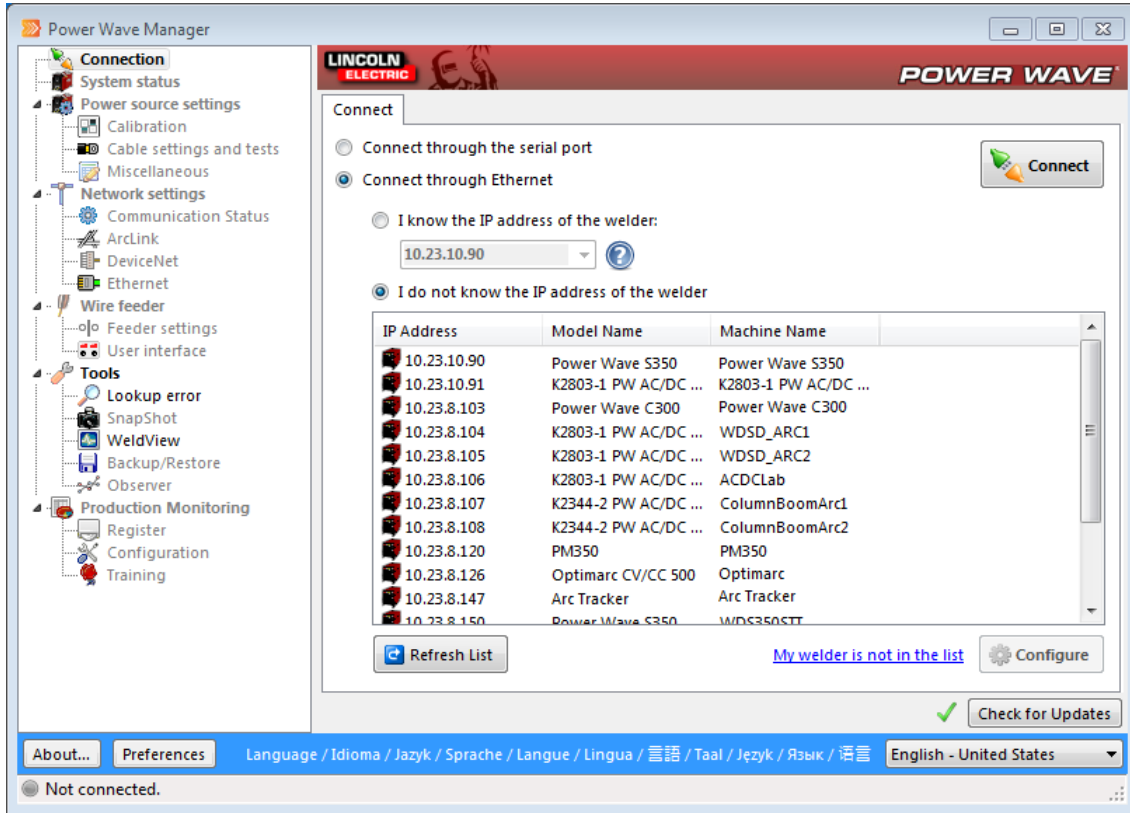

Figure 4.2 Connecting Using an Ethernet Connection
1. Open Power Wave® Manager.	Generally, you can select Start > All Programs > Lincoln Electric > Power Wave® Manager from the computer's main menu. When Power Wave® Manager opens, it automatically displays the Connect tab for you (Figure 4.2).